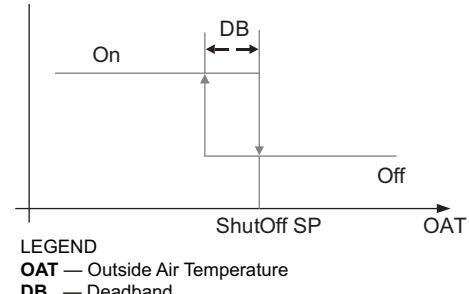

Fig. 84 — Hysteresis Settings
Hysteresis setting (DB) defaults to 2°F (−17°C). See Fig. 84.